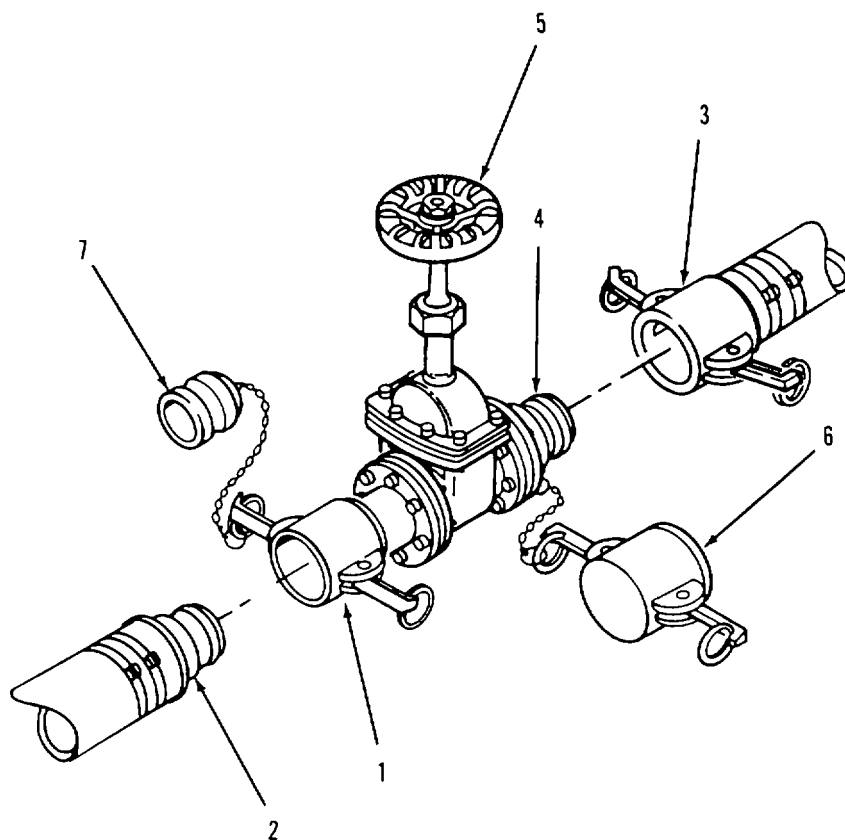

Figure 3-1 Component Replacement
a. Removal. Refer to figure 3-1.
- (1) Disconnect female coupling (1) from male coupling (2).
- (2) Disconnect female coupling (3) from male coupling (4).
- (3) Remove defective 4-Inch gate valve (5) from water system.
- (4) Install cap (6) on male coupling (4).
- (5) Install plug (7) in female coupling (1).
b. Installation. Refer to figure 3-1.
- (1) Remove plug (7) from female coupling (1).
- (2) Remove cap (6) from male coupling (4).
- (3) Position replacement 4-inch gate valve (5) in water system.
- (4) Connect female coupling (1) to male coupling (2).
- (5) Connect female coupling (3) to male coupling (4).
- (6) Startup water system (para 2-12c) and check for leaks at 4-inch gate valve (5).